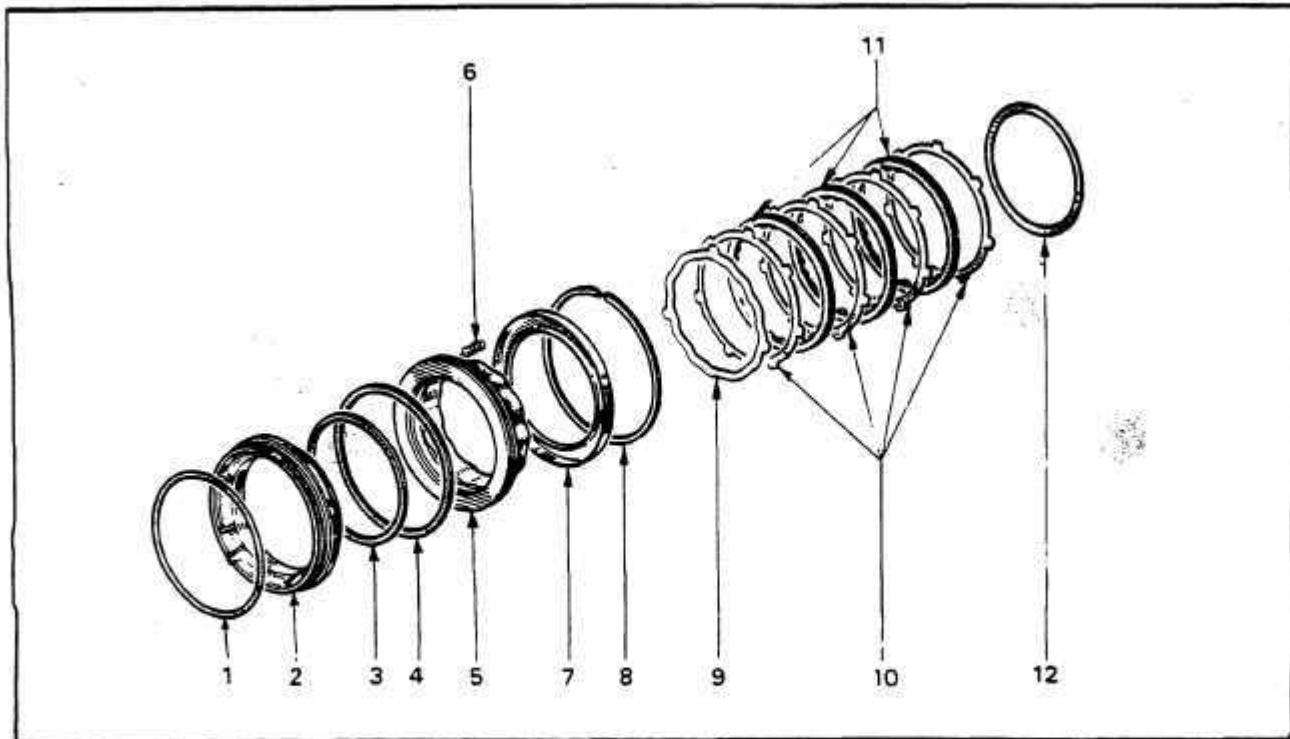

Fig. 43 BRAKE B-2 DISASSEMBLED
BRAKE B2 — Fig. 43
4. Separate the piston from the support and remove the seals 1, 3 and 4. *Fig. 43*
1. Lubricate the two (2) square section seals and fit the outer seal on the piston. Fit the inner seal in the groove on the inside of the piston. *Fig. 43*
2. Lubricate the new support seal with transmission fluid and fit on the piston support. *Fig. 43*